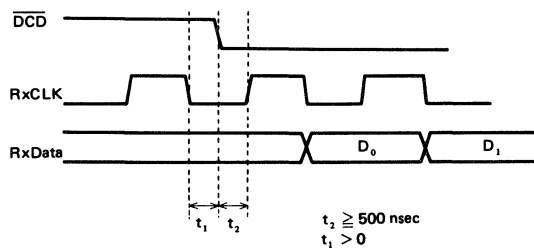

Figure 14 \overline{DCD} Input Timing in External Sync Mode
- (1) \overline{DCD} \downarrow and RxCLK \downarrow should meet the relation shown in Fig. 14.